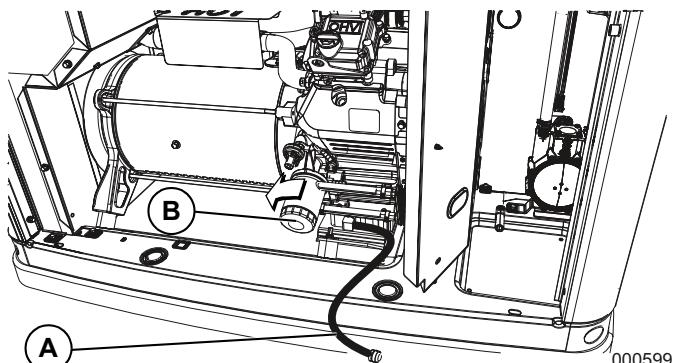

Figure 4-2. Oil Filter and Drain Location
2. A few minutes after the engine shuts OFF, when it has cooled slightly, lift the lid and remove the front panel. Pull the oil drain hose free of its retaining clip. See A in Figure 4-2. Remove the cap from the hose and drain the oil into a suitable container.
4. With the oil drained, remove the old oil filter by turning it counterclockwise. For filter location, see B in Figure 4-2.